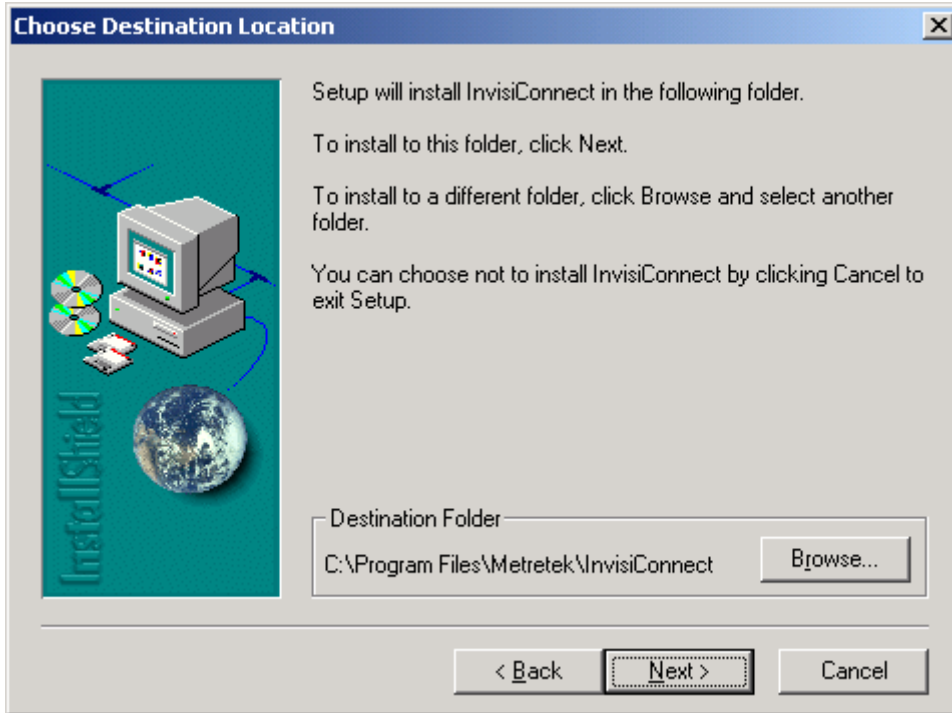

Figure 3 – InvisiConnect™ Installation – Choose Destination
4. Figure 3. Choose Destination Location - You can choose a destination other than the default location by clicking the <Browse> button and selecting an alternate location for the program. Click <Next> to continue.